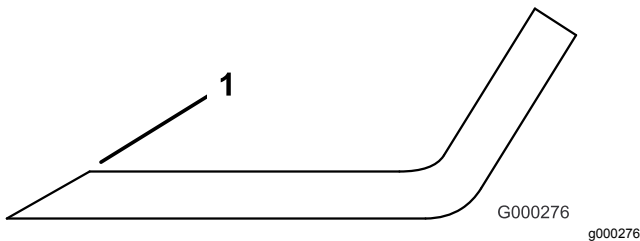

Figure 111
3. Examine the cutting edges of all of the blades. Sharpen the cutting edges if they are dull or nicked. Sharpen only the top of the cutting edge and maintain the original cutting angle to make sure of sharpness (Figure 111). The blade will remain balanced if the same amount of metal is removed from both cutting edges.